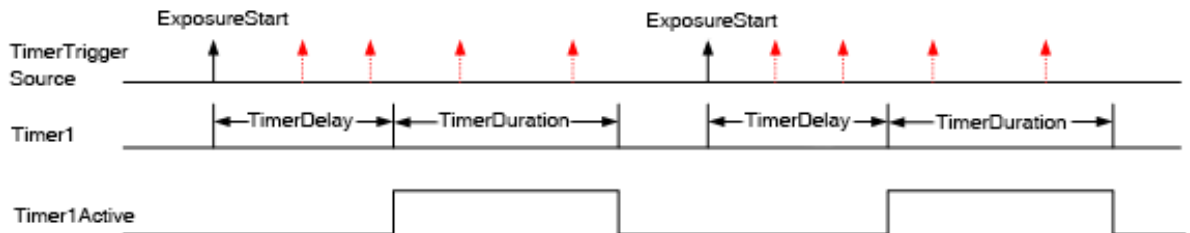

Figure 8-66 The relationship between Timer1Active and the ExposureStart signal
- From the start of the timer to the full output of Timer1Active, this process will not be interrupted by the *ExposureStart* signal, and Timer1Active must be completely output to start timing according to the next *ExposureStart* signal. As shown in the Figure 8-66, the red *ExposureStart* signals are ignored.